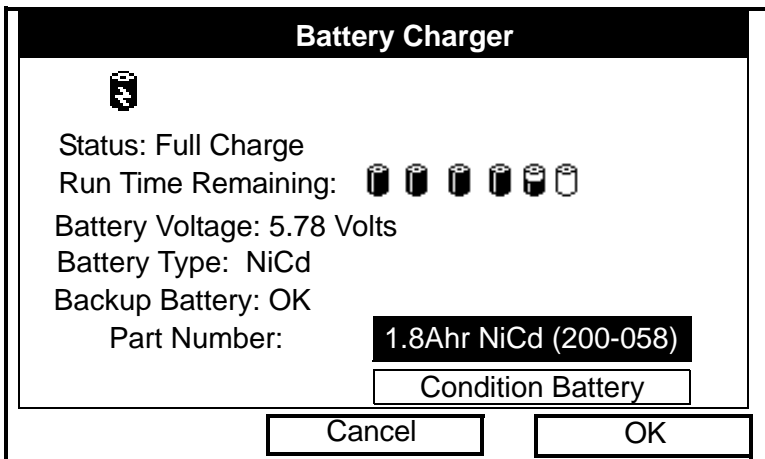

Figure 7-3: The Battery Charger Window
1. From the Meter menu, scroll to the Battery entry and press [ENTER]. The Battery Charger window opens, as shown in Figure 7-3 below.